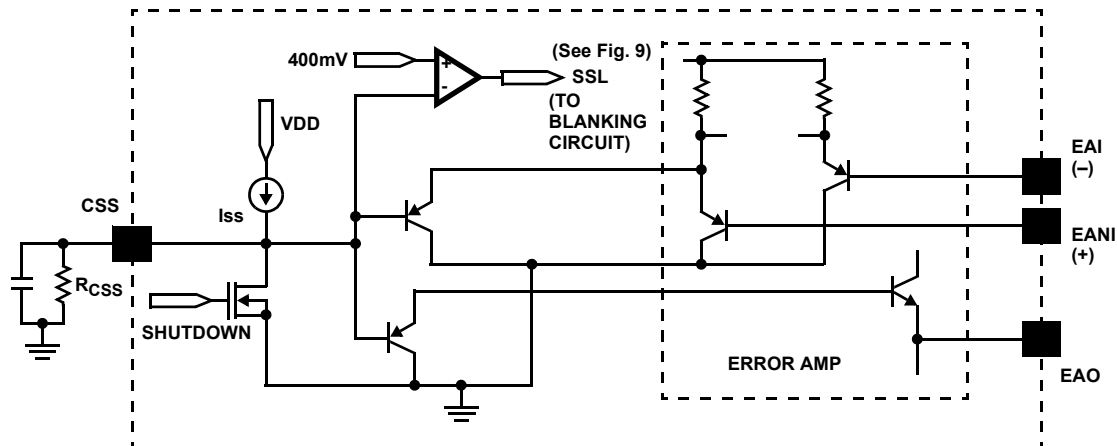

FIGURE 4. SIMPLIFIED CLAMP/SOFT-START
- Both EANI and EAO are clamped by the voltage ( $V_{clamp}$ ) set at the CSS pin, as shown in Figure 4. Note that the diodes in the functional block diagram represent the clamp function of the CSS in a simplified way.
- The clamping voltage determines the cycle-by-cycle peak current limiting of the power supply. It should be set above the EANI and EAO voltages and can be programmed by an external resistor as shown in Figure 4 using Equation 3.
incorporated. The current ramp is blanked out during the resonant delay period because no switching occurs in the lower FETs. The leading edge blanking function will not be activated until the soft-start (CSS) reaches over 400mV, as illustrated in Figures 4 and 9. The leading edge blanking (LEB) function can be disabled by tying the R\_LEB pin to VDD, i.e., LEB=1. Never leave the pin floating.